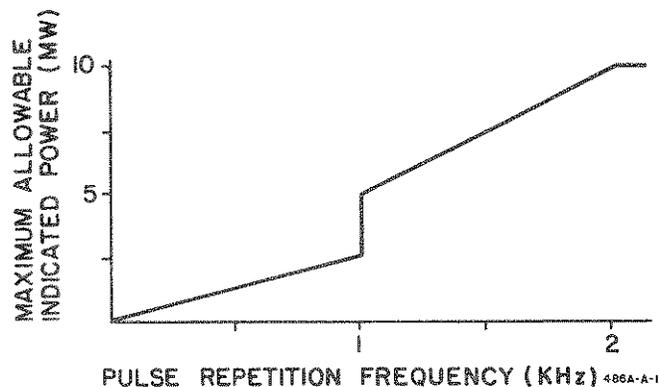

Figure 1. Maximum Power Meter Reading vs. PRF for Pulses Shorter than 250  $\mu$ sec
15. **PULSE ENERGY AND PEAK POWER.** In measuring pulse power, there is a limit on the energy per pulse which may be applied to the mount. For a pulse repetition frequency (PRF) less than 1 kHz, energy per pulse can be up to 2.5 Watt- $\mu$ sec; for a PRF 1 kHz and above, up to 5 Watt- $\mu$ sec (for lack of space, only the lower limit is shown on the mount name plate). However, this energy limit applies only to pulses shorter than 250  $\mu$ sec. In Figure 1, the pulse energy limit is translated into a maximum power-meter reading for any PRF. For pulses in this category, allowable peak power is inversely proportional to pulse width but should never exceed 100 Watts.